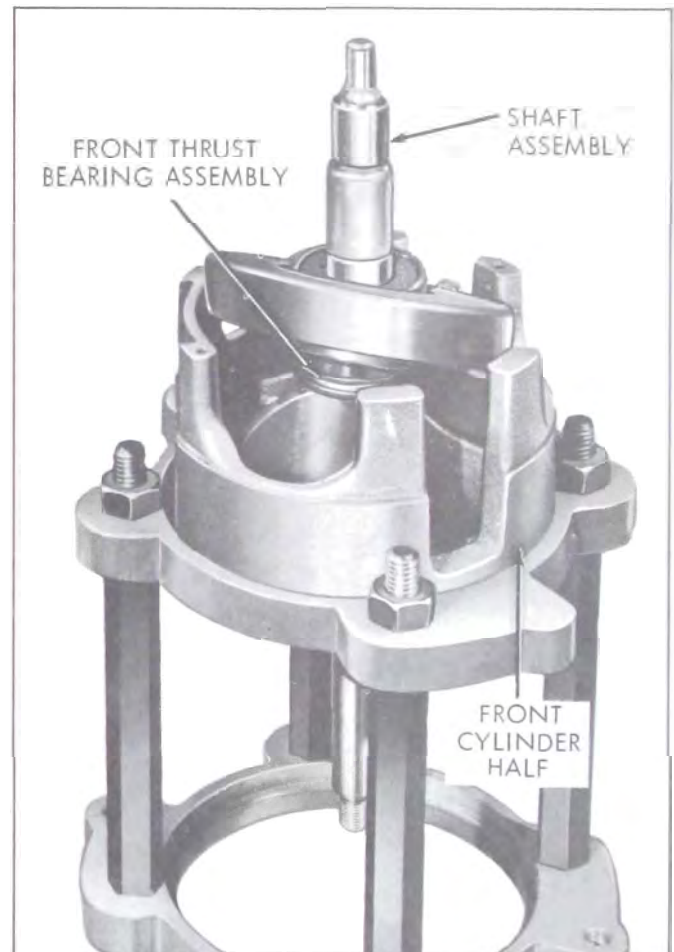

Figure 11-69—Shaft and Bearing Assembly in Front Cylinder Half
3. Place FRONT half of cylinder on J-9397 fixture. Insert threaded end of shaft (with front thrust bearing assembly) through front cylinder half and allow thrust race assembly to rest on hub of cylinder. See Figure 11-69.